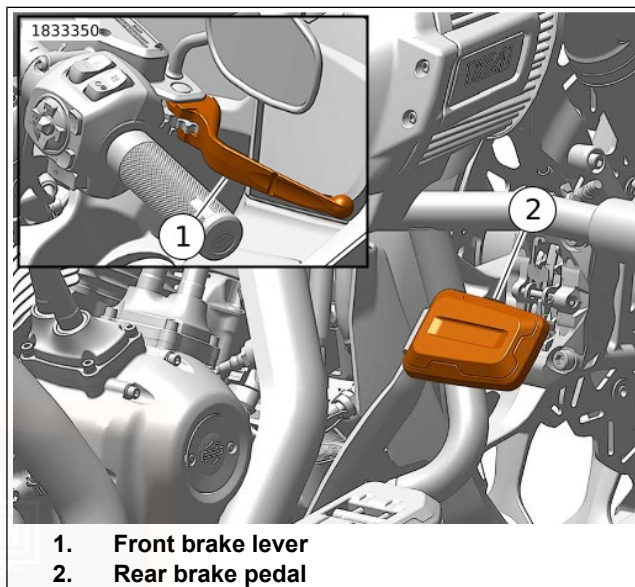

Figure 55. Brake Controls
See Figure 55. The front brake hand lever (1) controls the front wheel brake. The lever is on the right handlebar. Operate the hand lever with the fingers of the right hand.
See Figure 55. The rear brake pedal (2) controls the rear wheel brake. The pedal is on the right side. Operate the rear brake pedal with the right foot.